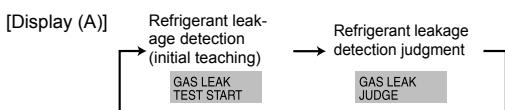

Fig. 8-2
- (2) Press **○ CLOCK (▼)** button and select the [GAS LEAK TEST START] (Fig. 8-2)